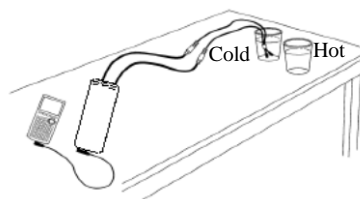

Figure 1
4. Place the two sensors in the cold solution, and hook up the TI-73 and the CBL 2™ as shown in Figure 1.